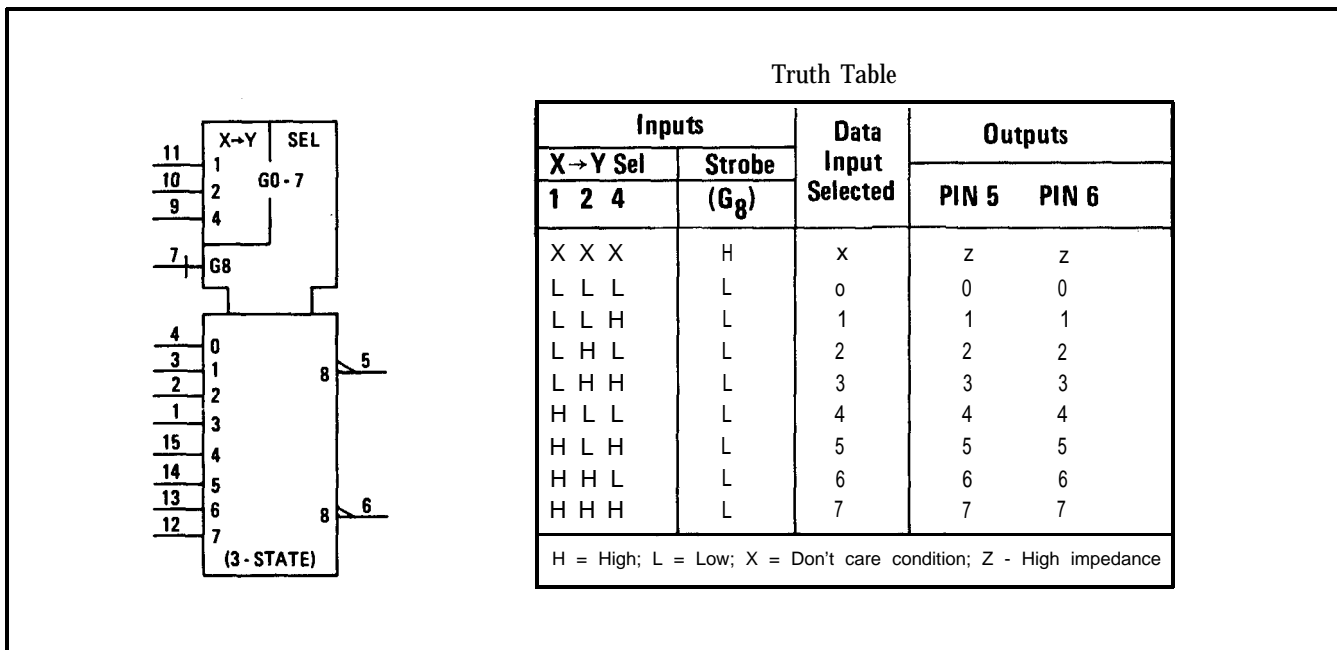

Figure 8-10. 8-Input Data Selector (Multiplexer)
**8-47. Data Selector (Multiplexer).** There are two types of data selectors used in the Power Meter: an 8-input data selector and a 16-input data selector. The operation of both data selectors are identical except for the number of inputs. Therefore only the operation of the 8-input data selector is described and the symbol shown in Figure 8-10. One of the 8-input lines (0 through 7) is selected by the SEL output (G0 through 7). The strobe input (G8) must be low in order to enable the output lines. If the strobe input is high, the output lines are inhibited and present a high impedance. This circuit uses Three State logic so that the outputs may be connected into a "wired OR" configuration.